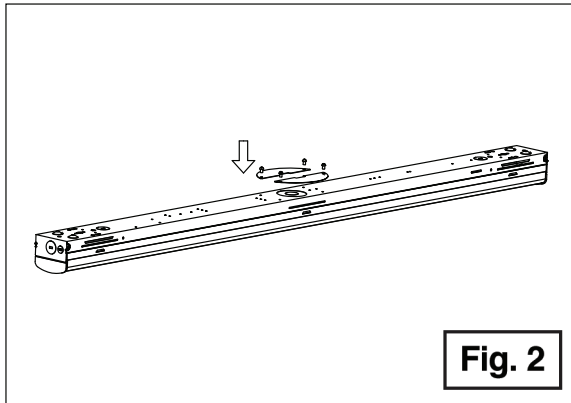

Fig. 2
2. If needed, fix the J-Box cover plates on the fixture. **(Fig. 2)**
2. Secure the fixture to the Pendant box with screws. **(Fig. 2)**